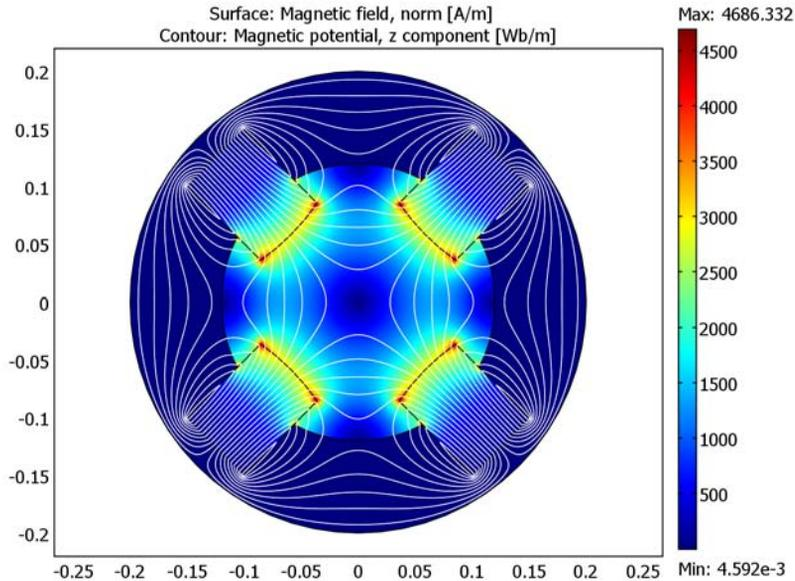

Figure 4-8: The magnetic field density and flowlines in the center of one of the quadrupole magnets.
The magnetic field density and flowlines in a cross section of Q1 or Q3 appear in Figure 4-8 below.
- 5 Click **Apply** to see the magnetic field. The magnetic field lines follow the same pattern as the magnetic potential contour lines (see Figure 4-8 on page 86).